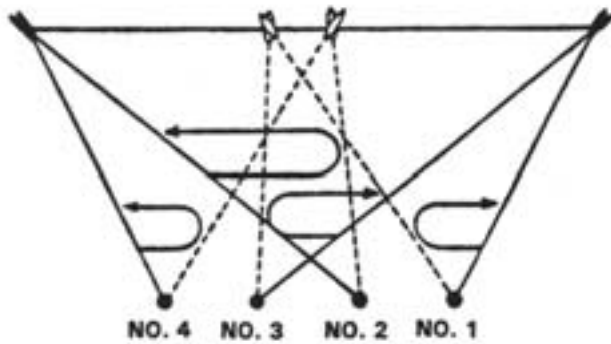

Figure 6-15. Traversing Method Using a Section (Minus) of Guns. Target More Than 100 Mils in Width (Each Squad of Guns Covers the Entire Target).
b. By Section (Minus) Using Four Machine Guns. Each squad (pair of guns) engages the entire target as prescribed except when engaging extremely wide targets (see figure 6-15). In engaging extremely wide targets, each squad may be assigned one-half (or any other portion) of the target. Each portion is assigned and designated separately as an individual target. Each squad covers its assigned portion of the target by either of the methods previously described, depending upon the width of the target.